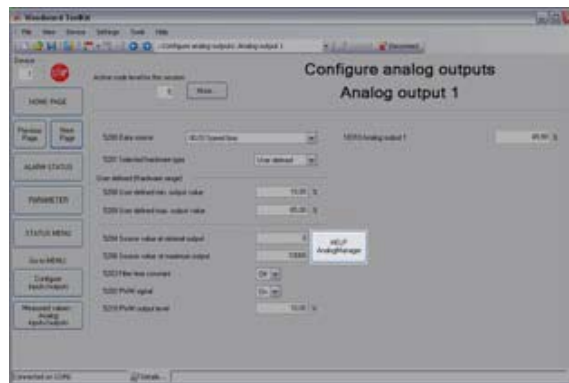

Fig. 241: Setup of external AOs
1. Configure the external analog outputs using the ToolKit screen shown in (Fig. 241).